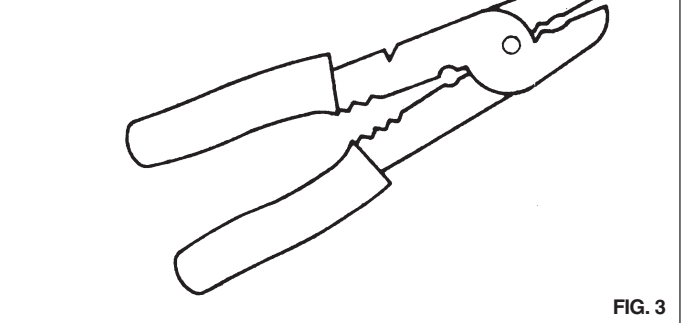

FIG. 3
G) Maintaining proper polarity, crimp the butt connectors onto the wires, using the recommended tool (fig. 3).